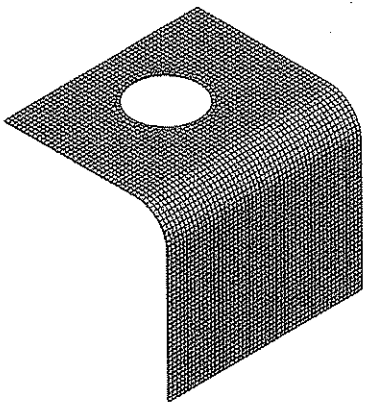

Figure 8-51 Mesh generated for the model
- Choose the **Update** button from the **Mesh** contextual toolbar; the mesh is updated, as shown in Figure 8-51.